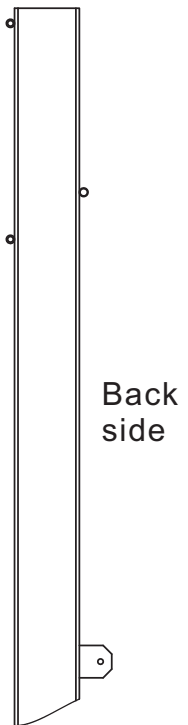

Figure2
*NOTE: Face the Main Post (A) with Actuator Bracket facing away from playing court (as shown in **FIGURE 2**).*